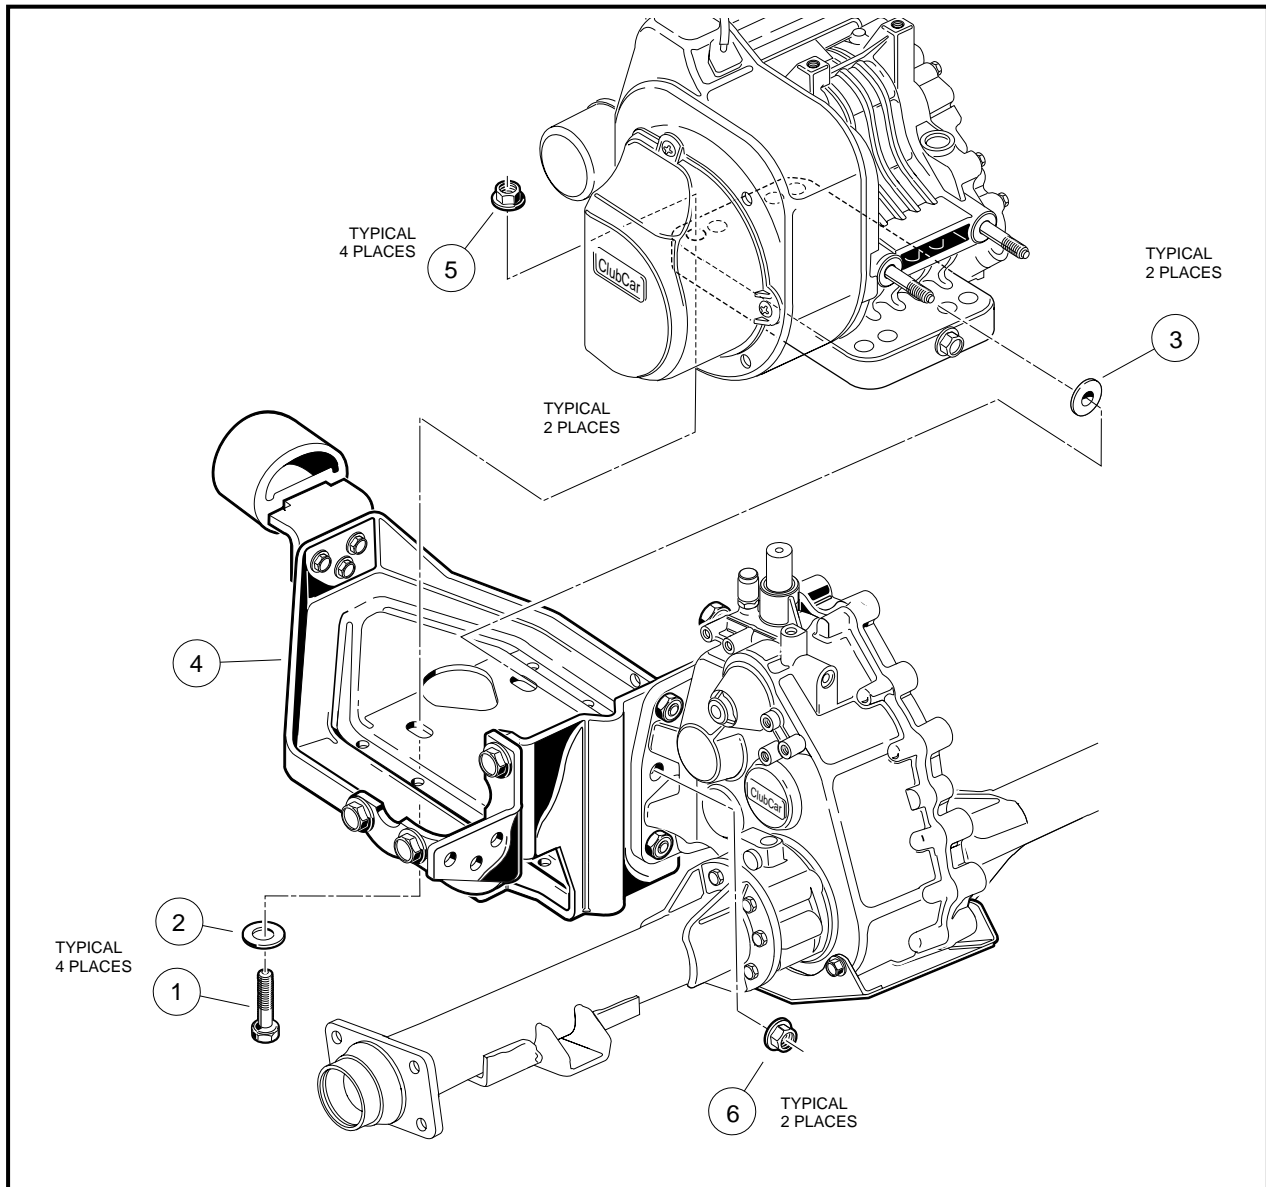

Figure 13-44 Engine Mounting Plate
5. Remove engine mounting hardware (Items 1, 2, 5 and 6) **(Figure 13-44, Page 13-23).**